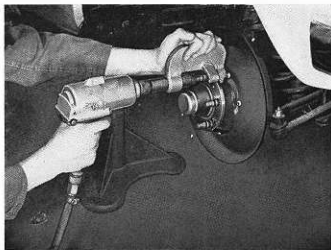

Fig. 7-17. Removing wheel stud
2. Set up tool 2862, without the accessory components, as shown in Fig. 7-17. Run the nut